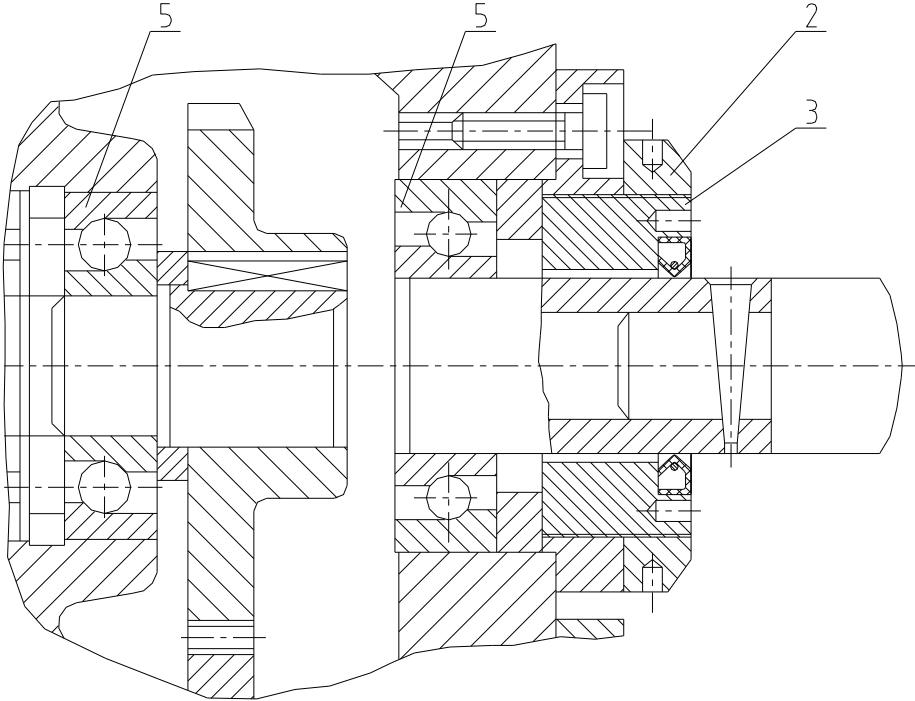

Fig.6-11. Adjustment the lead screw axial clearance
6.2.8 ADJUSTMENT THE LEAD SCREW AXIAL CLEARANCE (See Fig.6-11)